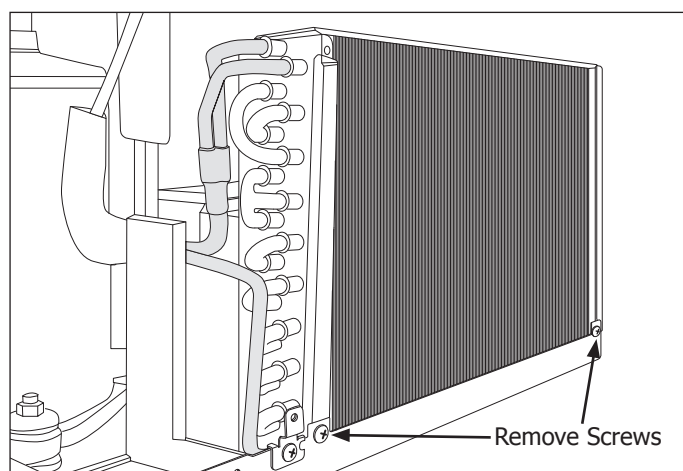

Figure 4-124.
7. Extract the two screws securing the bottom front of the evaporator to the unit base. (See Figure 4-124)